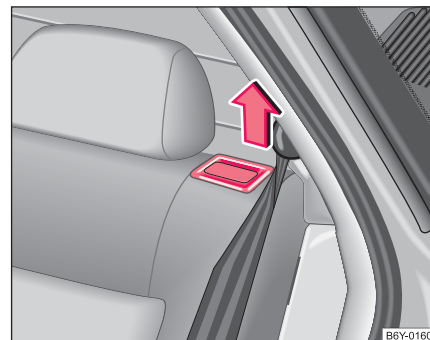

Fig. 49 Unlock the seat backrests
- Pull up the unlocking knob on the seat backrest and fold the seat backrest forwards ⇒ page 67, fig. 49.